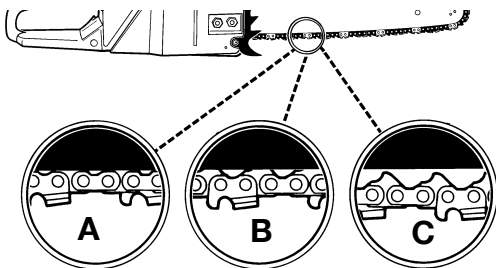

Fig. 29
CAUTION: If saw chain is **TOO LOOSE** or **TOO TIGHT**, the sprocket, bar, chain, and crankshaft bearings will wear more rapidly. Study Fig. 29 for information concerning correct cold tension (A), correct warm tension (B), and as a guide for when saw chain needs adjustment (C).